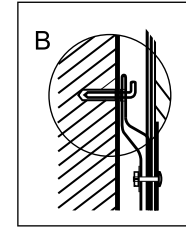

Fig. 6
2. After you chose the proper place to install the water heater, determine points for holes for expansion hook bolts (to be determined in accordance with the data sheet for the appliance you chose). Drill two holes of the corresponding depth in the wall using a drill, dimensionally fit for expansion bolts, enclosed with the water heater, insert bolts, turn the hook upwards, securely tighten nuts and then hang the electric water heater on these hooks (for RS1) (see Fig. 6).